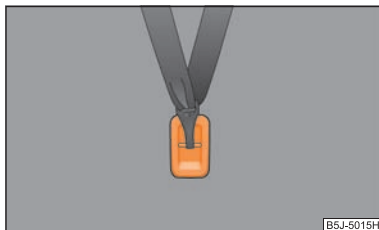

Fig. 129 Rear seat: Top Tether
In certain countries national legal provisions also require the equipment of the rear seat with fixing eyes for child seat using the “Top Tether” system ⇒ fig. 129.
- Attach the child seats with the “Top Tether” system only to the points provided for this purpose ⇒ page 136, fig. 129.